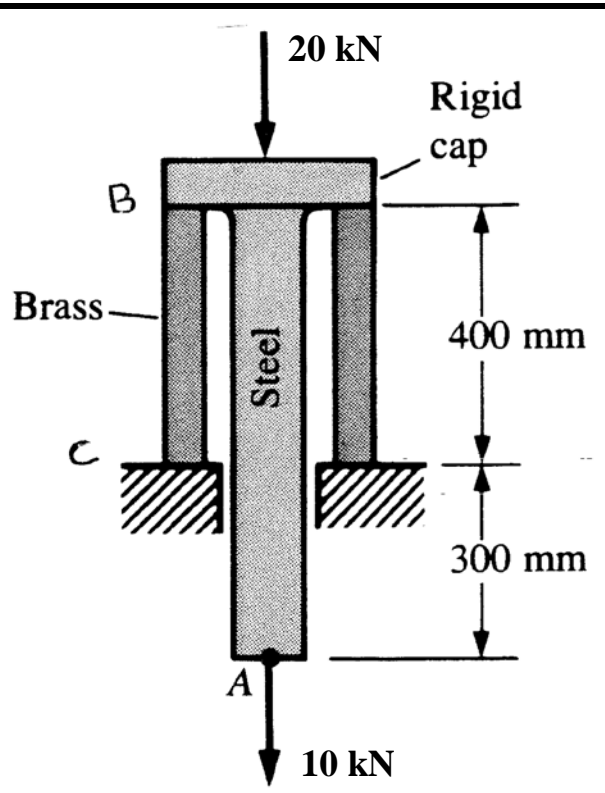

Fig. P3
- 3) A 12-mm-diameter steel rod, shown in Fig. P3, is welded to a rigid plate that is supported by a brass pipe whose outside diameter is 30 mm and whose inside diameter is 20 mm. If $E_{ST} = 210$ GPa and $E_{BR} = 105$ GPa, determine